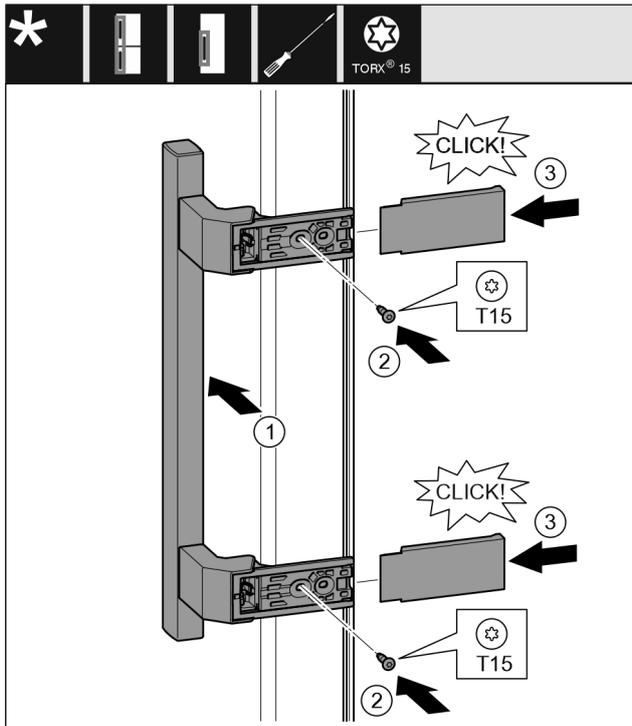

Fig. 12
- ▶ Attach the handle on the opposite side. Fig. 12 (1)
- ▶ Tighten the screws using a T15 screwdriver. Fig. 12 (2)
- ▶ Attach the covers on the sides and slide them on. Fig. 12 (3)